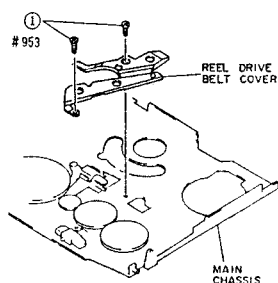

Fig. 2-72
- Remove two (2) screws holding the reel belt cover. (See Fig. 2-72)